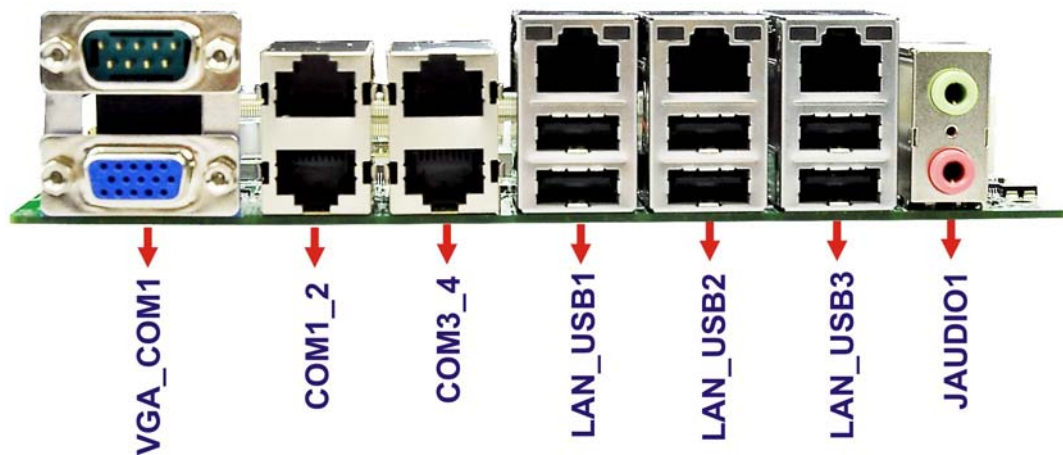

Figure 3-18: External Peripheral Interface Connector
CN Location: See **Figure 3-18**
- CN Location: See **Figure 3-18**